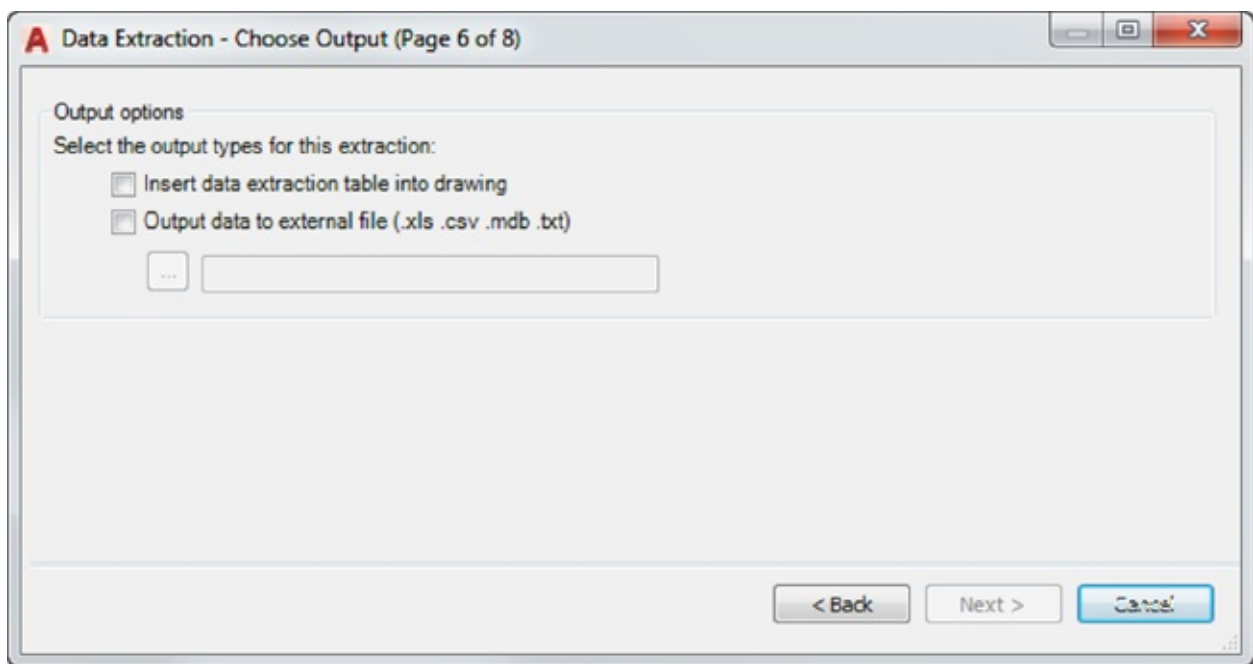

FIGURE 12.20 Decide how to convert your attribute data.
1. Click Next. The Choose Output page appears (see Figure 12.20). This window lets you determine whether to convert the data into a table in the drawing, extract the data as an external data file, or do both.